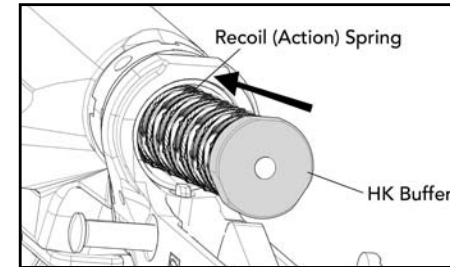

Fig. 52 – Installing the buffer and action spring
- Ensure that the hammer is in the down (cocked) position before attempting to install the buffer and action spring. Mount the action spring onto the buffer and insert the buffer and spring into the receiver extension. Push back on the buffer far enough until the buffer is retained by the spring loaded buffer detent (Fig. 52).